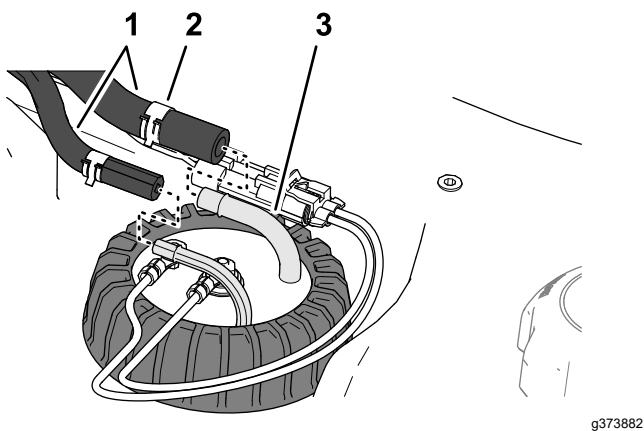

Figure 124
5. Assemble the hose onto the fittings of the fuel sender, and secure the hoses to the fittings with the clamps (Figure 124).